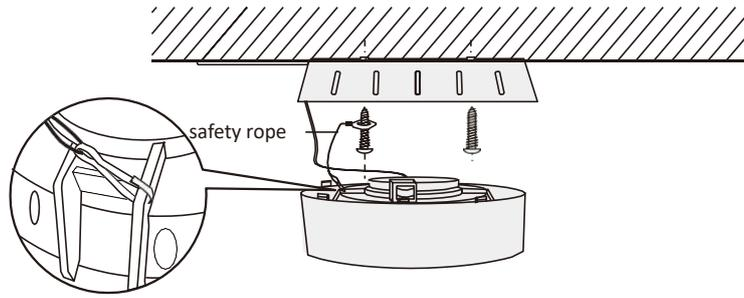

Figure 3
3.The safety rope ring is sheathed into fixed roof screw.one end of the safety rope with the hook is connected with the speaker main body (As shown in the figure3).